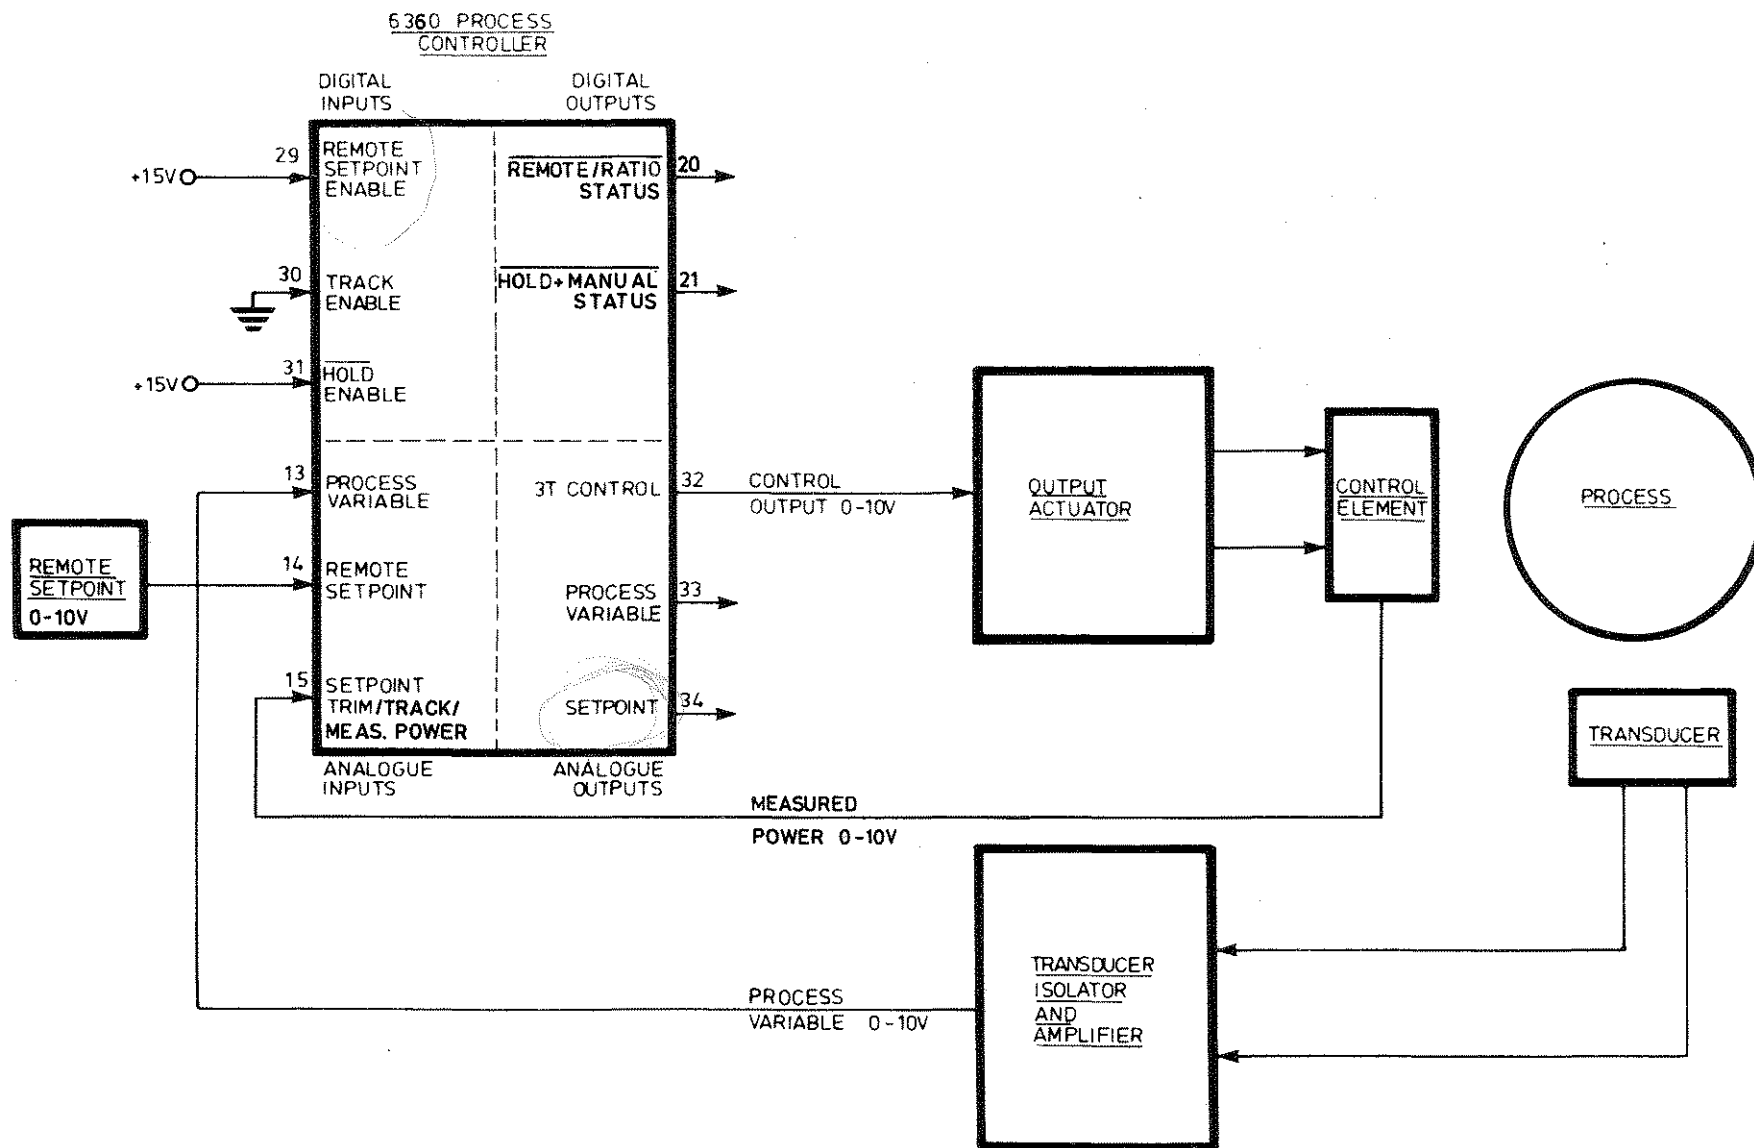

FIG 3-2 TYPICAL CONTROL LOOP CONFIGURATION
Fig 3.2 illustrates how a 6360 Process Controller may be operated as a conventional 3-Term Controller within a closed-loop control system but using an externally generated Setpoint. This configuration is termed REMOTE AUTO and Table 3.6.1 shows that the conditions necessary for this mode of operation are as follows:-
- c) The 3-Term Control Output level may be inspected as a 4 digit number in the range 0 to 99.99% on the digital readout by holding in the Remote Auto mode (R) push-button. The Raise/Lower buttons are inhibited from affecting the 3-Term output.
- d) The Controller may be used to display a Measured Power signal derived from the Output Actuator shown in Figure 3.2 and under these conditions operation is as described in Section 3.10.
- f) The left-hand vertical bargraph will display the Process Variable (PV) as described in Section 3.4.4 b). In addition when no push-buttons are held in the Front-panel digital readout will also display the Process Variable in Engineering Units.
- c) The 3-Term Control Output level may be inspected as a 4 digit number in the range 0 to 99.99% on the digital readout by holding in the Ratio mode (R) push-button. In this case the Raise/Lower buttons are inhibited from affecting the 3-Term Output.
- d) The Controller may be used to display a Measured Power signal derived from a Control Element as shown in Figure 3.2 and under these conditions operation is as described in Section 3.10.
- e) The left-hand vertical bargraph will display the Process Variable (PV) as described in Section 3.4.4 b). In addition when no push-buttons are held in the Front-panel digital readout will display the Process Variable in Engineering Units.